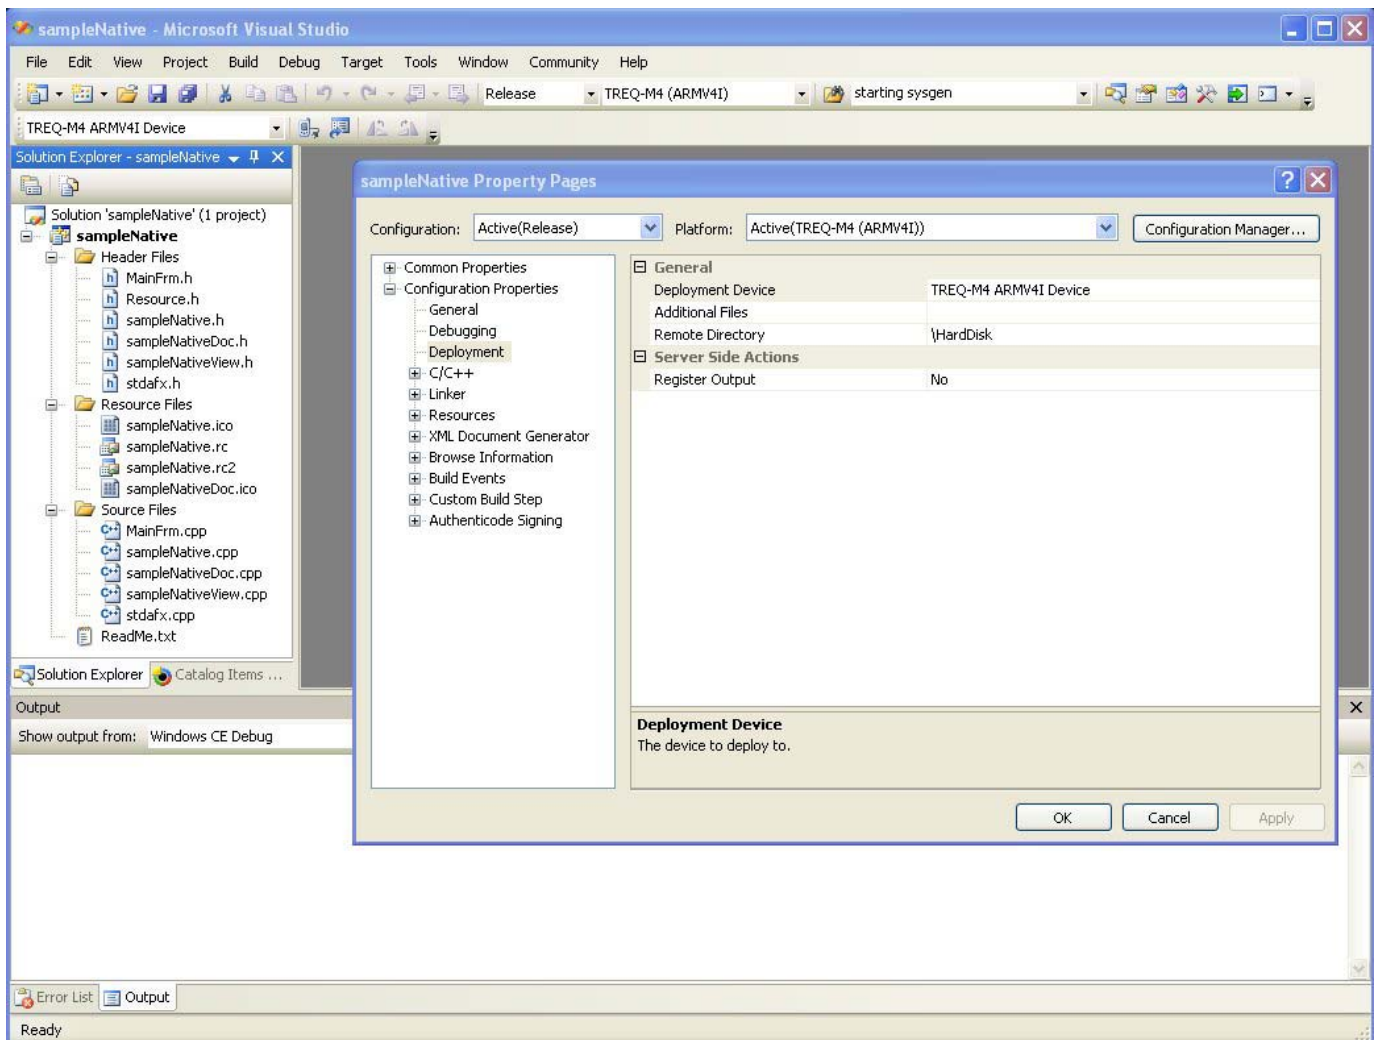

Figure 28
9. In Configuration Properties, Debugging and Deployment, set the Remote Executable and Remote Directory parameters, respectively (see Figure 28). These parameters determine the path in the TREQ-M4 file system where the executable will be deployed and executed.